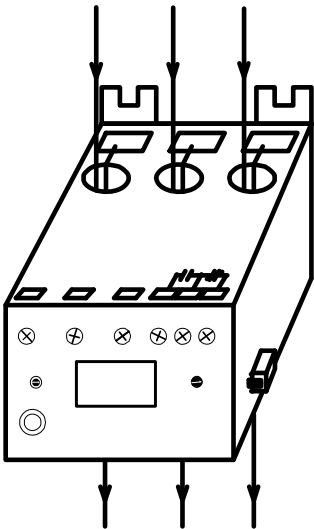

Figure 1: Looping Example for 12-20A, MULT = 2
b) For amperages less than 20 amps, loop the motor conductors according to Table 1. Figure 1 shows an example of the looping required for current ranging from 12-20 amps (MULT=2).